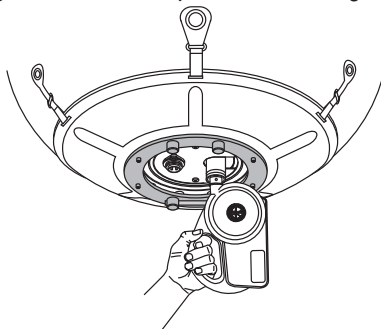

Figure 8. Adding Additional Air
- The balloon may have lost some air after performing the previous steps. To add more air to the balloon, unscrew the cap (Figure 8) on the lamp fixture and use blower to inflate balloon until it is taut and the Velcro straps fit tight. Screw the cap back on and tighten.